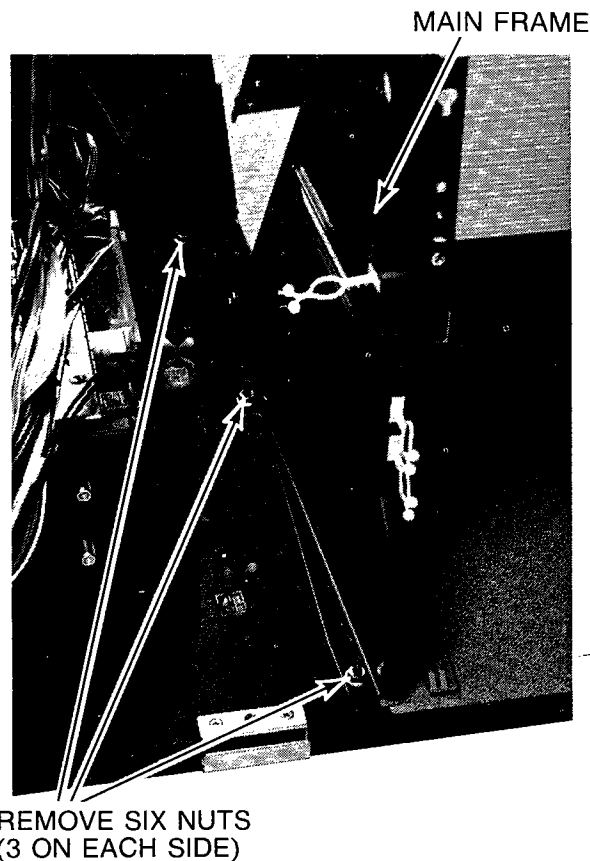

Fig. 19 — Lens Mounting Frame
2. Remove six (6) nuts (3 on each side of frame) Fig. 19.